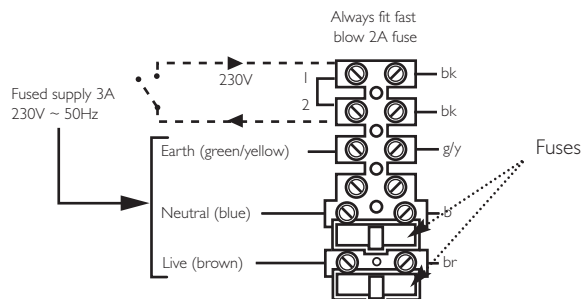

Fig. 48
6. Remove the link between terminals 1 & 2. The switched output from the external control must be connected to terminal 2 (Fig. 48).